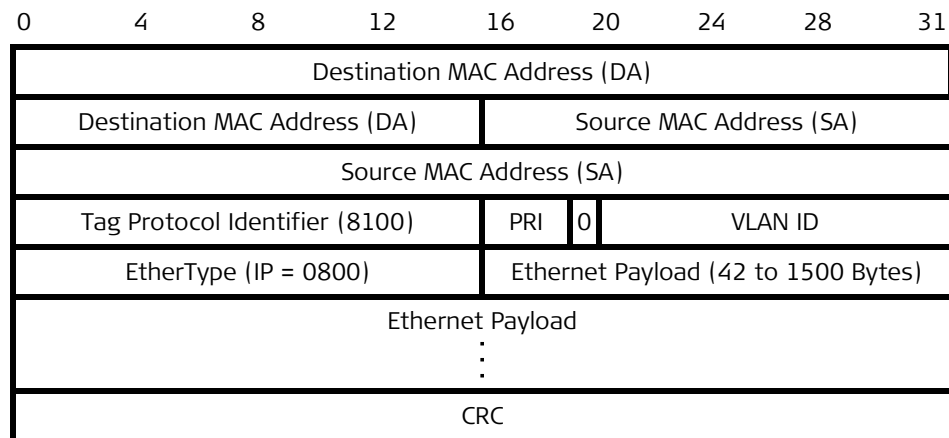

Figure B-7. Structure of Ethernet Frame with VLAN Support
The structure of an Ethernet frame with VLAN support is shown in Figure B-7 (for simplicity, the figure does not include the preamble and SFD fields).
- One bit for the canonical format indicator (always 0 as shown in Figure B-7).
When the TDMoIP traffic is carried over Ethernet, the basic TDMoIP packet shown in Figure B-10 is encapsulated in the frame shown in Figure B-6 (without using VLANs) or Figure B-7 (when using VLANs).